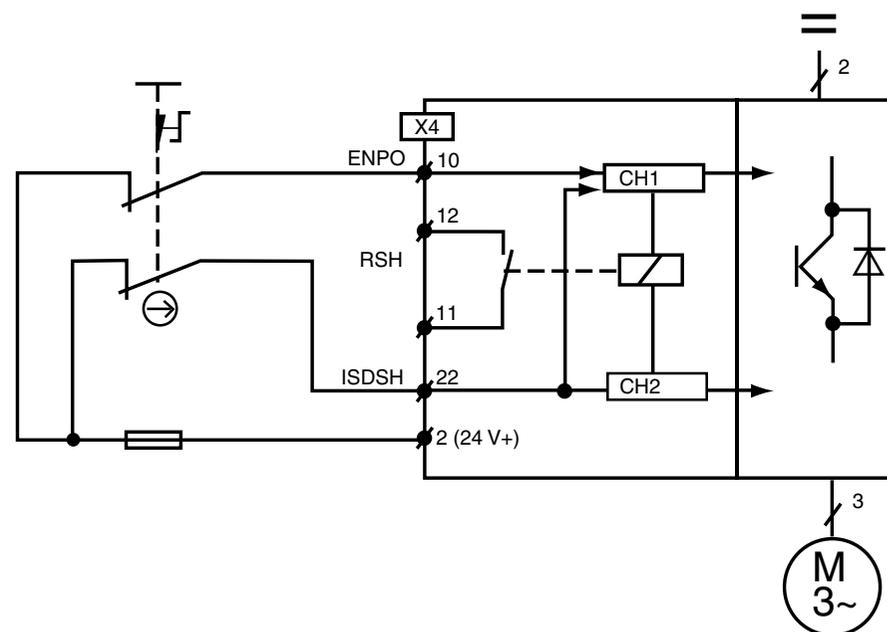

Figure 6.1 "STO" selection of function via switch with two NC contacts (positively operated)
- There is no protection against unexpected restarting after re-establishing the electrical power supply in the illustrated example circuit, unless an external circuit is used (figure 6.1). If ENPO and ISDSH are High when reconnecting the power supply (see table 6.2), the axle may start up if autostart is programmed. The connected safety circuit on the machine must ensure that the ServoOne (the SRP/CS) can attain and maintain the safe state of the machine.